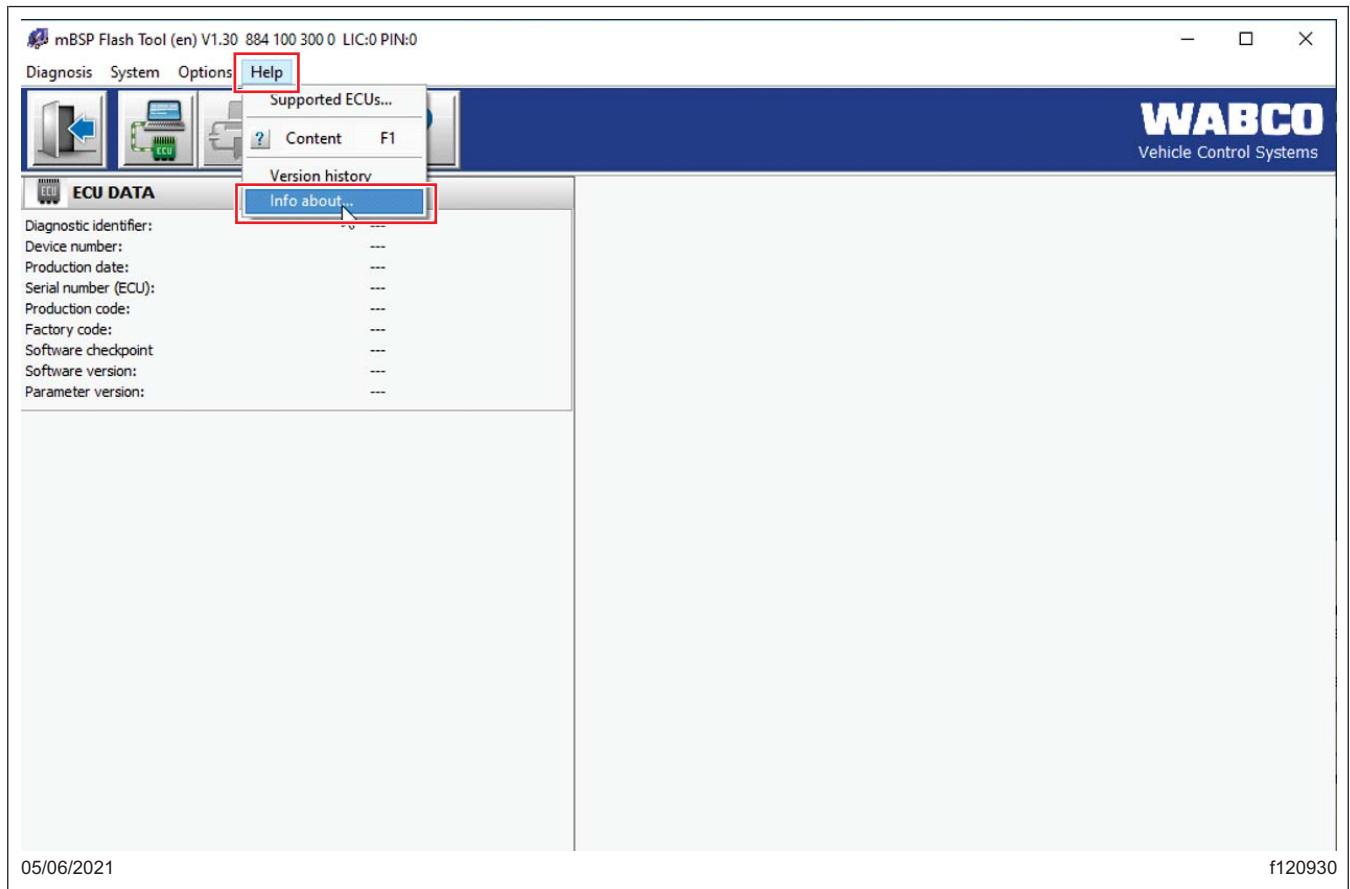
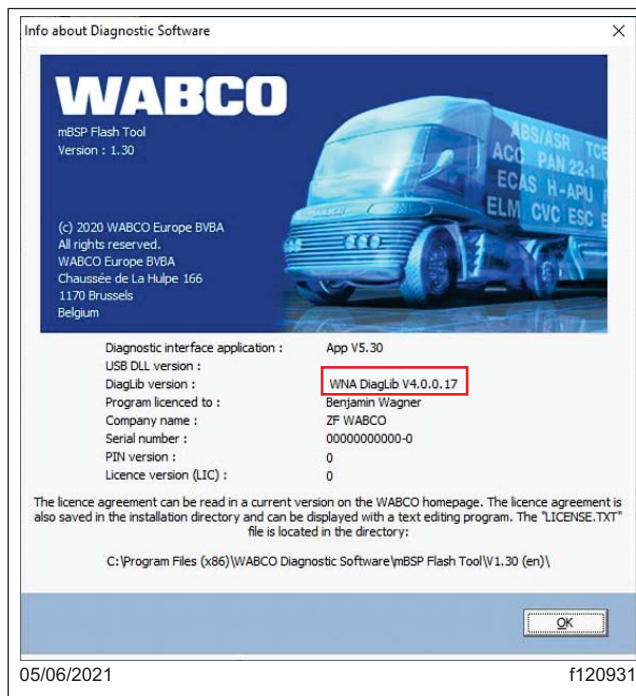

Fig. 1, Opening "Info about Diagnostic Software" Window
Fig. 2, "Info about Diagnostic Software" Window
5. An mBSP flash tool software of version WNA DiagLib **V4.0.0.17** is required to perform this ABS ECU software update procedure. If the mBSP flash tool software is already installed, check the mBSP flash tool software version; go to "Help", and select "Info about...". See Fig. 1 and Fig. 2.